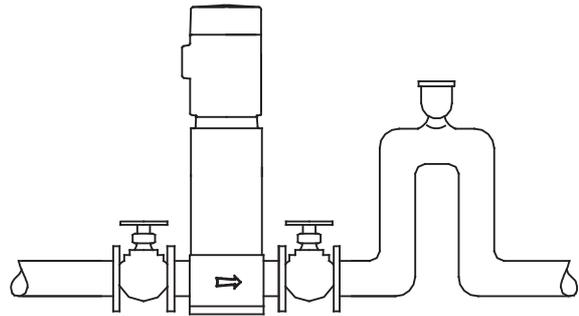

Fig. 3
- There is a risk of a siphon effect in stations in which the pressure lines run downwards from the pump. Install a vent valve at the pump (See Fig. 3 for the layout).